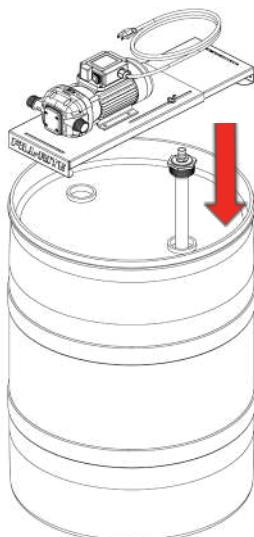

Figure 8
2. Adjust length of suction tube to reach within 2" of the bottom of drum once tightened into bung adapter. Insert Drum Suction Tube (sold separately, item 6, page 12). Place Pump with Drum Bracket over drum lip. Compress sliding bracket to securely wrap around drum lip. Secure bracket by tightening wing nuts (Figure 8).